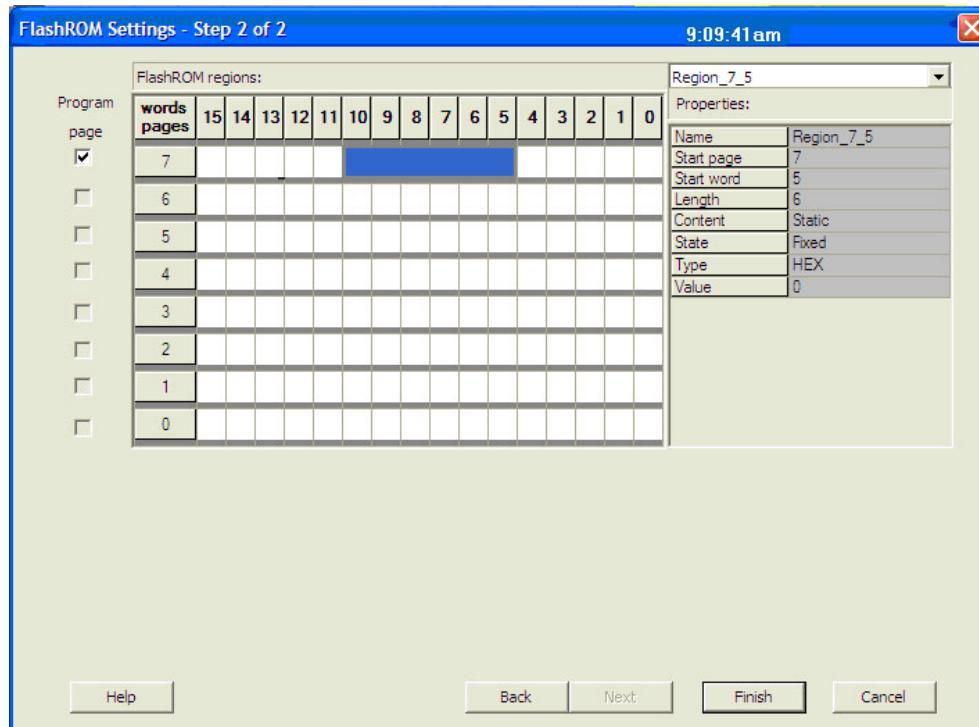

Figure 11-13 • FlashROM Configuration Settings for Low Power Flash Devices
3. Choose the desired settings for the FlashROM configurations to be programmed (Figure 11-13). Click **Finish** to generate the STAPL programming file for the design.